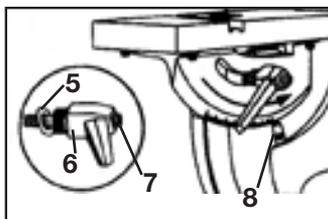

FIG 3
1. Remove the table aligning screw and nut (1) from the table edge.
2. Place the table onto the saw. Slide the blade through the table slot (2). Make sure the mounting rib (3) on the side of housing is engaged with the recessed groove on the rotating bracket (4).
3. Insert the flat washer on the threaded side of the table lock knob. Insert table lock knob through the bracket slot and into the hole in the housing, turning clockwise until finger-tight. Install table lock handle (6) over lock knob and install Allen bolt with spring into lock lever. Turn the Allen bolt (7) clockwise with the provided Allen wrench to tighten lever to lock knob. (FIG 3)